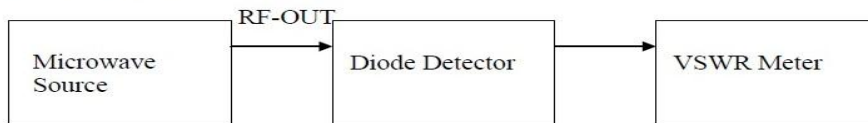

Fig.1
1. Experiment set up as shown in fig.1.
1. Experiment set up as shown in Fig.1